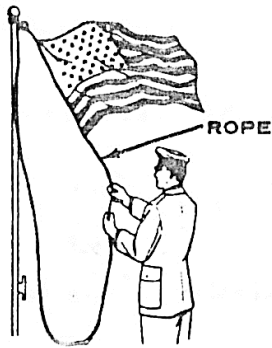

FIGURE 5-3A
1. Explain what is being done in figure 5-3a. (Rotate question.)